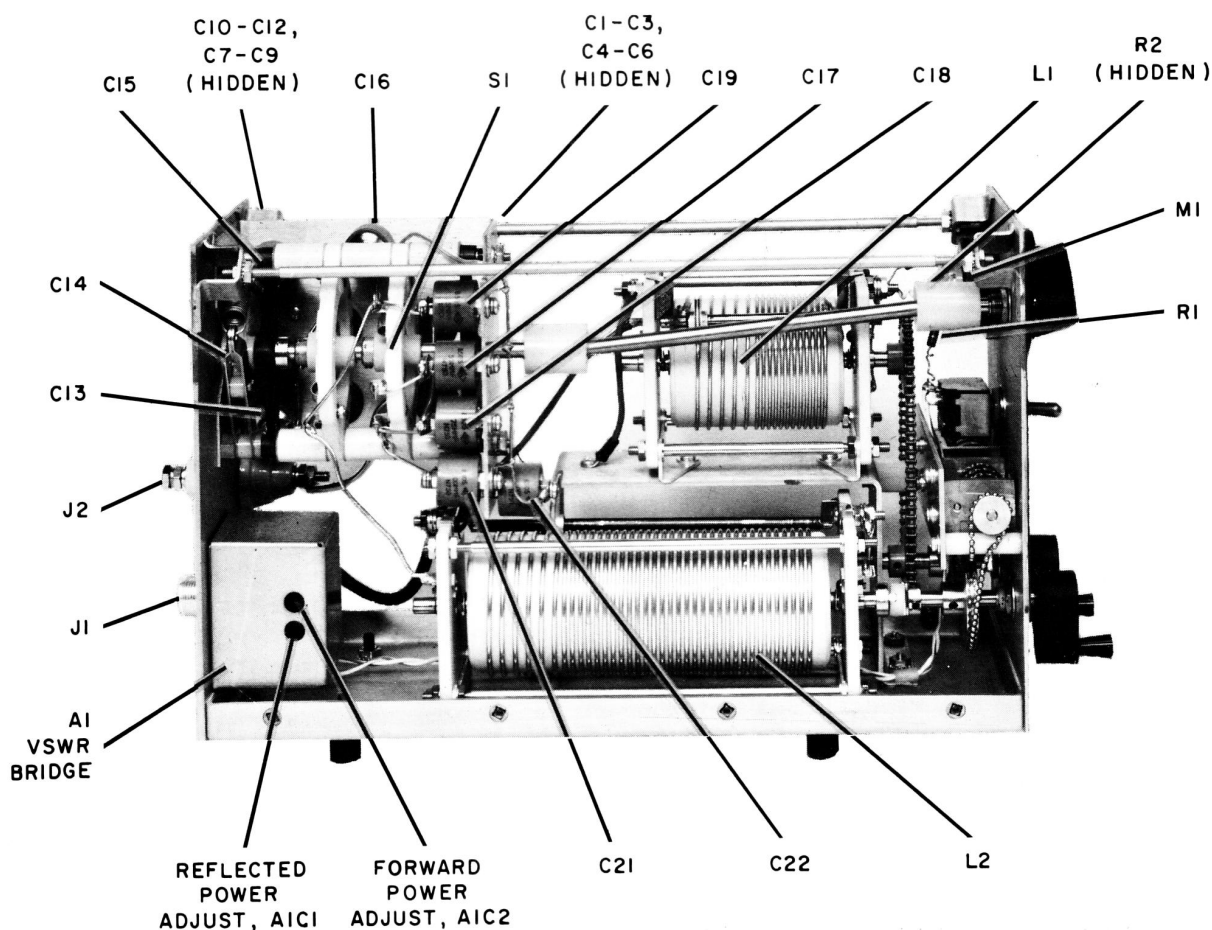

Figure 4.1 - Component Locations
i. Carefully adjust A1C1 trim capacitor (see figure 4.1) for minimum current indication on the multimeter.
n. Carefully adjust A1C2 trim capacitor (see figure 4.1) for minimum current indication on the multimeter.